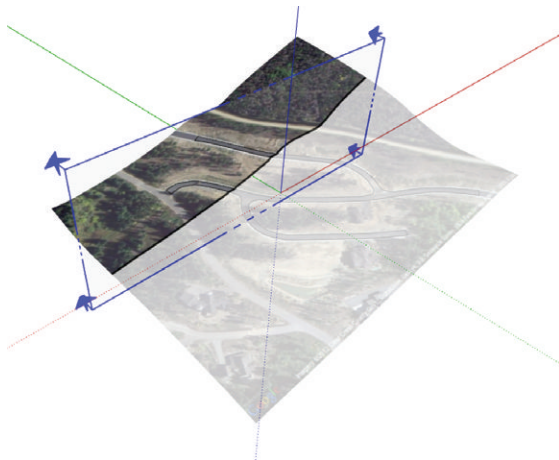

Figure 15.23 The section plane properly located
3. Use the Move tool to adjust the location of the section plane as shown in Figure 15.23.